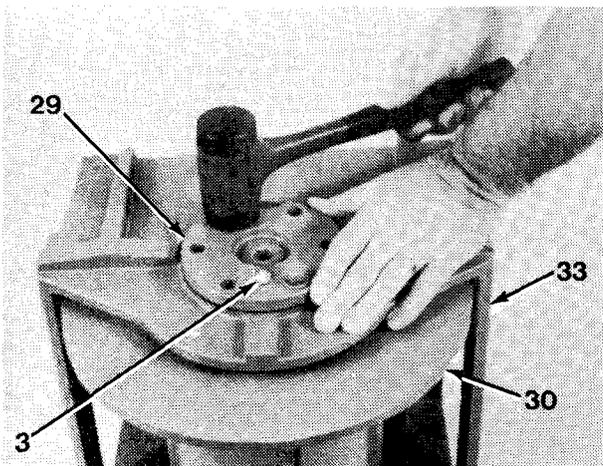

Figure 16-17
4. Install drum (30) and center in opening of base (33, Figure 16-17).
5. Install relief valve (3), if removed.
6. Lubricate bearing support (29) with lubricating oil MIL-L-2105, grade 80W90.
7. Install bearing support (29), in base (33) and drum (30).